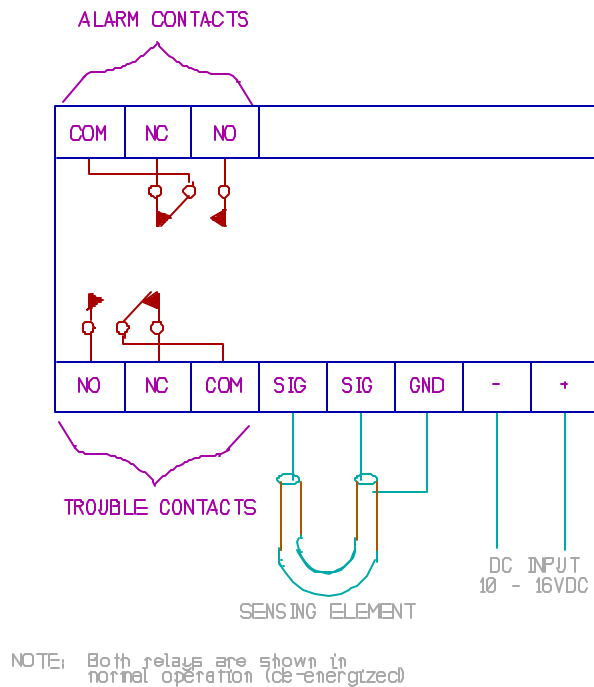

Figure 16. Terminal Block Connections for P/N 35003-39, **DC Only**.
- (1) Connect input voltage, earth ground, and CFD signal to the control unit terminal blocks, Figure 16.
- (2) Ground the outer sheath of the connector plug assembly or cable assembly to the CFD sensing element ground terminal, GND. In applications where continuous elements are interconnected with sections of copper wire, grounding of sensing element sheaths must be insured.
- (3) Power the alarm and trouble relay contacts externally to provide load voltage and wire the load circuit to perform the required function. Connect to control unit terminal blocks as shown in Figure 16.